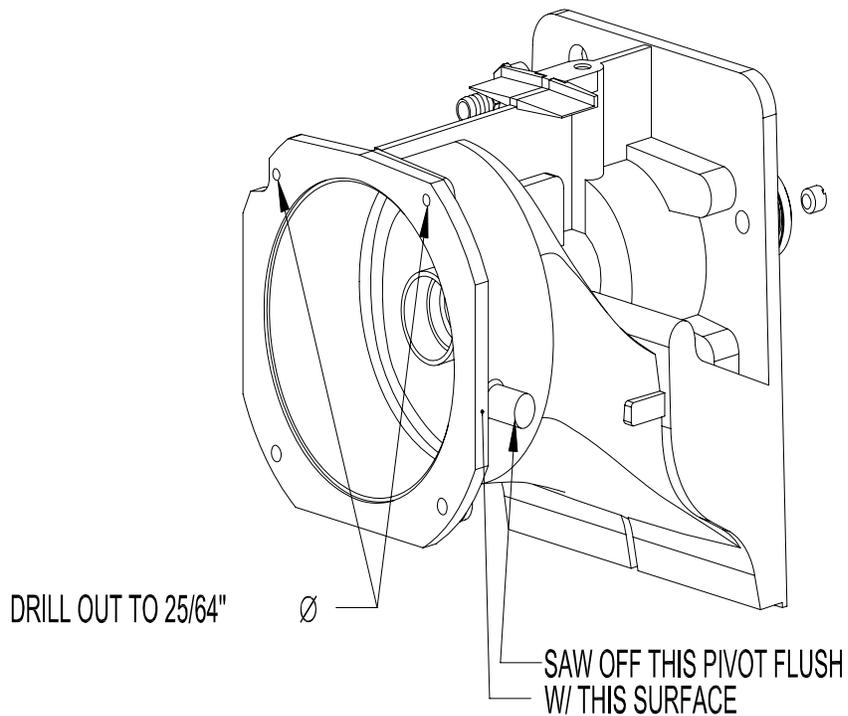

FIG 2
13. Saw off the reverse pivot boss FIG. 2 - Photo 8